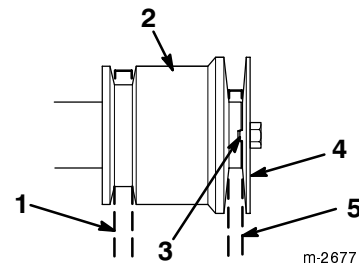

Figure 32
14. Install the engine pulley sheave, washer, lock washer, and crankshaft screw. Make sure that the indexing rib in the engine pulley sheave aligns with the indexing notch in the engine pulley (Fig. 32).
Note: Make sure not to pinch the auger/impeller drive belt (Fig. 32).
- Note:** Make sure that the indexing rib in the engine pulley sheave aligns with the indexing notch in the engine pulley. Also, make sure not to pinch the drive belt (Fig. 32).